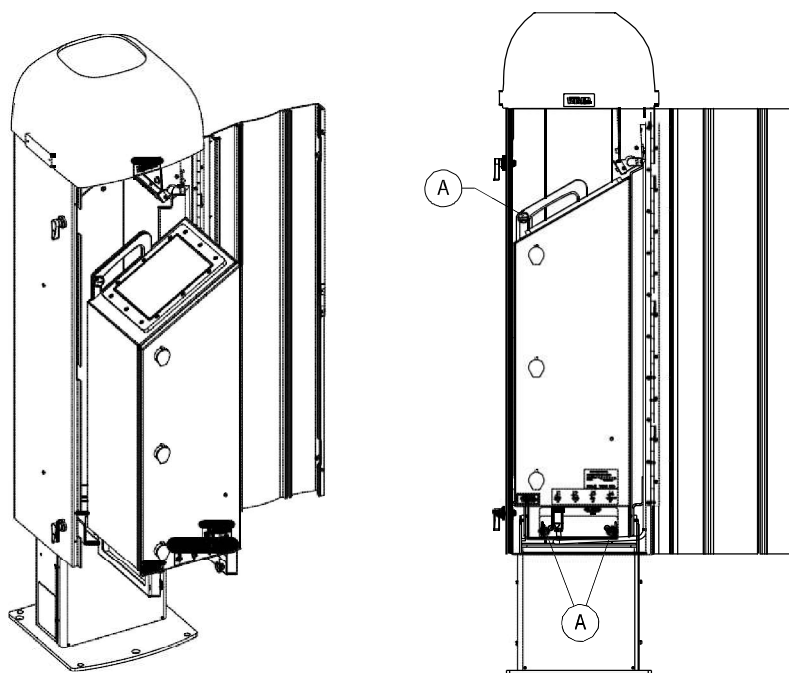

Figure 9. Measurement unit attachment screw locations (A)
1. To remove the measurement unit from the shield, loosen the three attachment screws (labeled as A in Figure 9), disconnect the blower cable from connector J1, and pull the measurement unit sideways out of the shield.